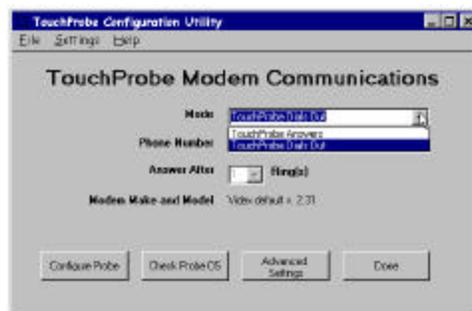

Figure G-8 Select Modem Transfer Mode
2. Determine whether you want host-initiated or remote-initiated communications. From the **TouchProbe Modem Communications** screen, select either the **TouchProbe Answers** (host-initiated) mode or the **TouchProbe Dials Out** (remote-initiated) mode; see Figure G-8.